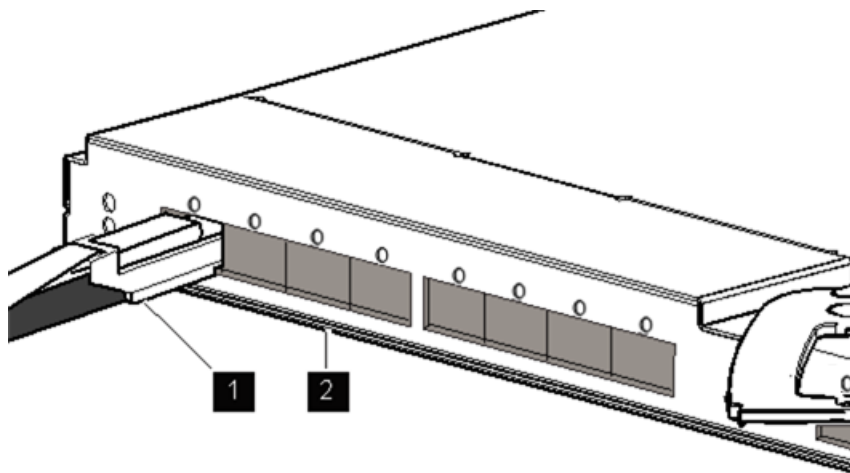

Figure 9 InfiniBand Cable Installed in Port 1 of an HP BLc QLogic 4X QDR InfiniBand Managed Switch
2. Insert the QSFP connector into the HP BLc QLogic 4X QDR InfiniBand Managed Switch port (see callout 1 in Figure 9) until it is fully engaged and locked.